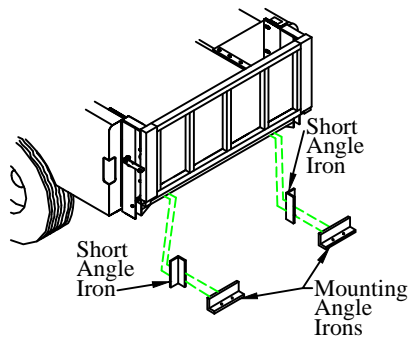

Figure 18: Lower bracket support.
2. **Bolt** the short angle irons to the truck hitch (Figure 18),